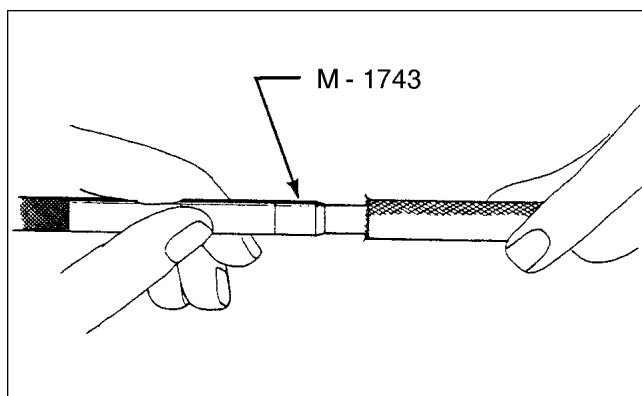

Figure 8-21. Stripping Tool
- d. Flare out shielding. Without allowing any of the shielding to fold under, insert Slick M-1743 Stripping Tool under the braided shielding. Refer to Figure 8-21.